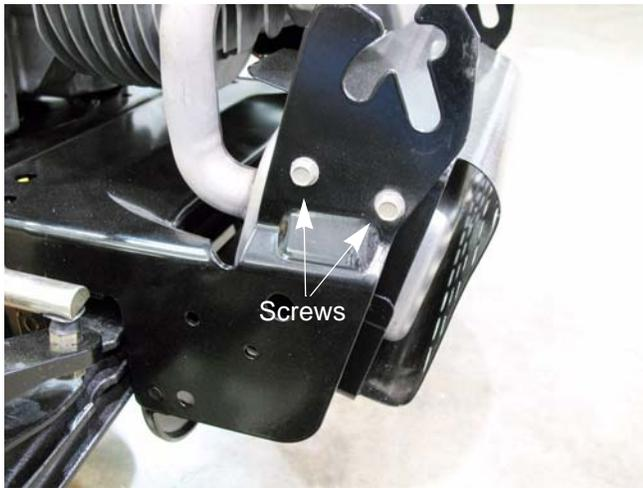

Figure 2.1
2. Remove the two screws on each side that secure the muffler guard bracket. See Figure 2.1.